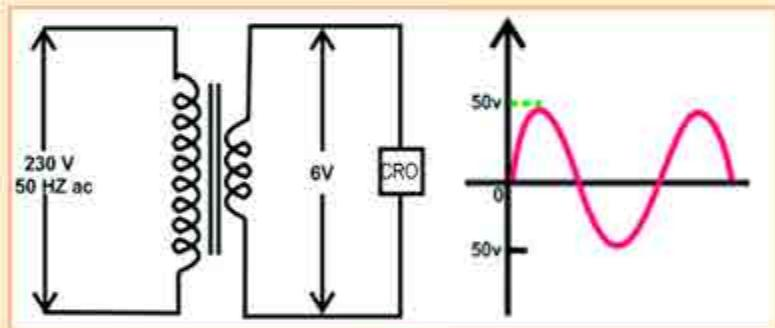

Fig 7.2
- Connect the primary of a 230/6 V transformer to AC supply as shown in Fig 7.2 and observe the signal in the transformer secondary using a CRO. What is your observation?